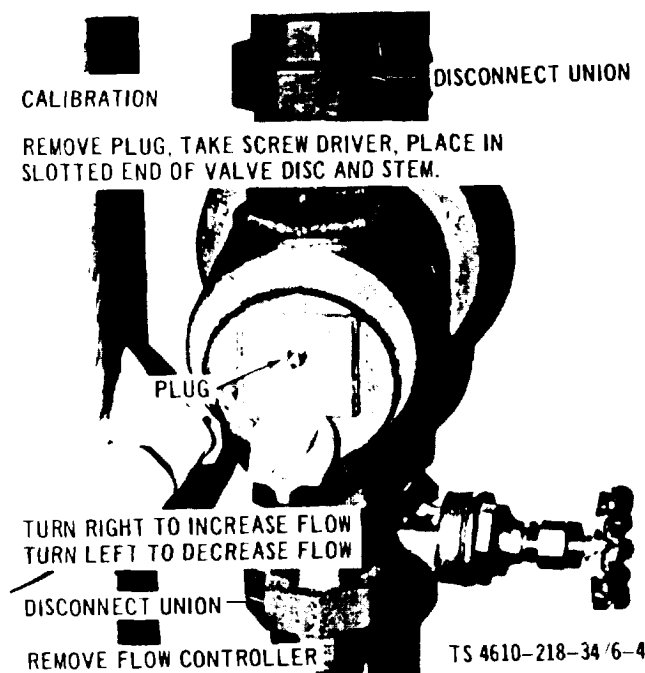

Figure 6-4. Adjustable Flow Controller, Removal, Installation, and Calibration
b. Removal. Remove the adjustable flow controller valve as illustrated in figure 6-4.
f. Installation and Calibration. Install and calibrate the flow controller valve as illustrated in figure 6-4.